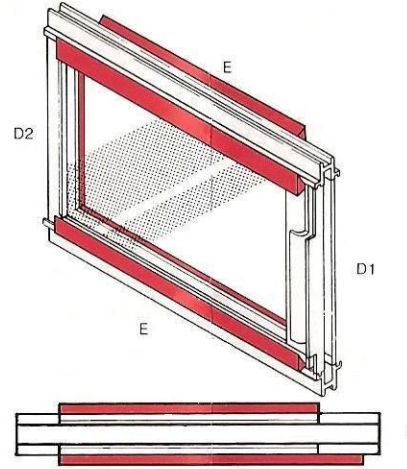

Figure 10
- i) Now replace the seals in Section E. The longer lengths will be on the same side as the interlock of Section D1 (Figure 10).